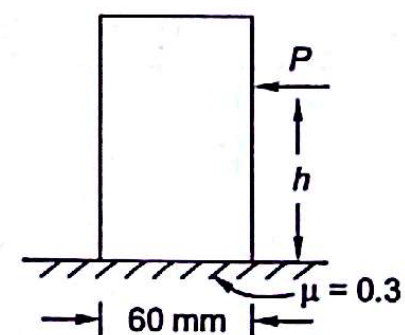

Fig. 6.27
- 6.7 Fig. 6.27 shows a block of width b and weight mg . Force P is applied to block at height h . Coefficient of friction between block and floor is 0.3. At what height h force can be applied so that block slips without tipping?